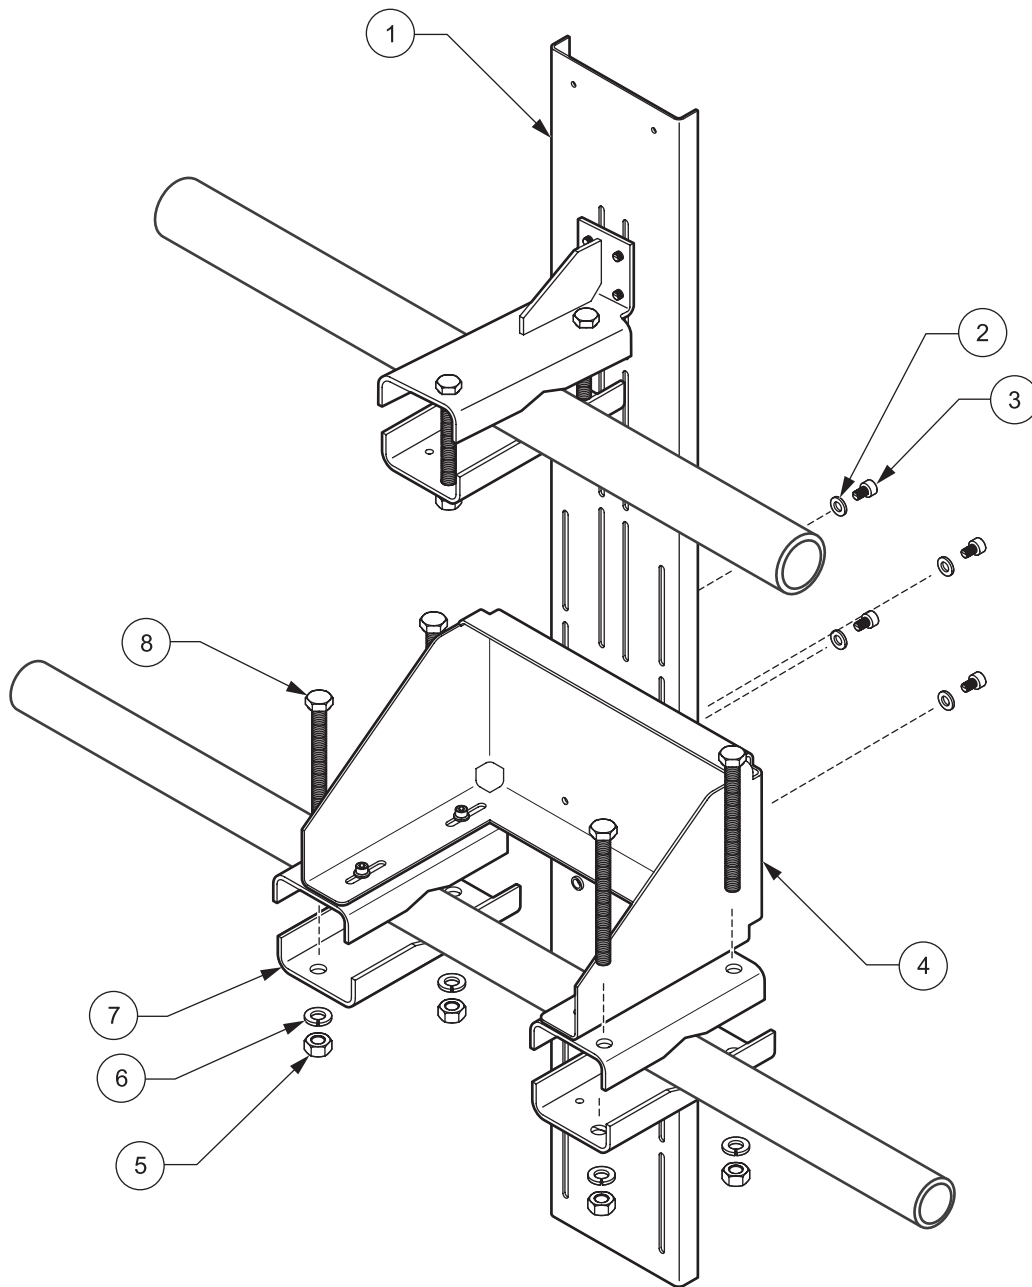

Figure 9 Installing the angle bracket on the mounting rail
5. Loosely mount the angle plate to the mounting rail with the M5 hex socket head screws. Loosely screw the angle plate to the bottom rail with two U profiles (see Figure 9 on page 9).